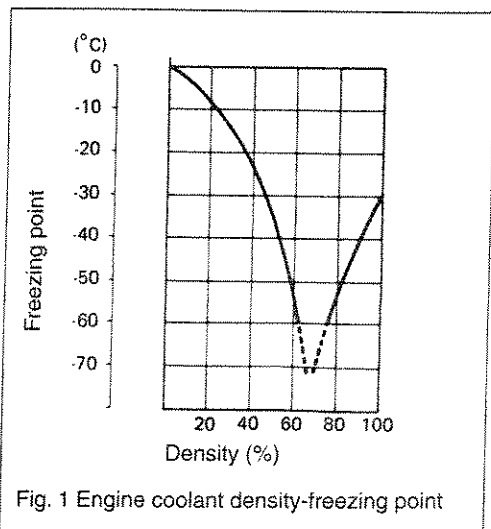

Fig. 1 Engine coolant density-freezing point
- * If the motorcycle is to be exposed to temperatures below -31°C (-24°F), the percentage of antifreeze should be increased to 55% or 60%, according to figure 1.